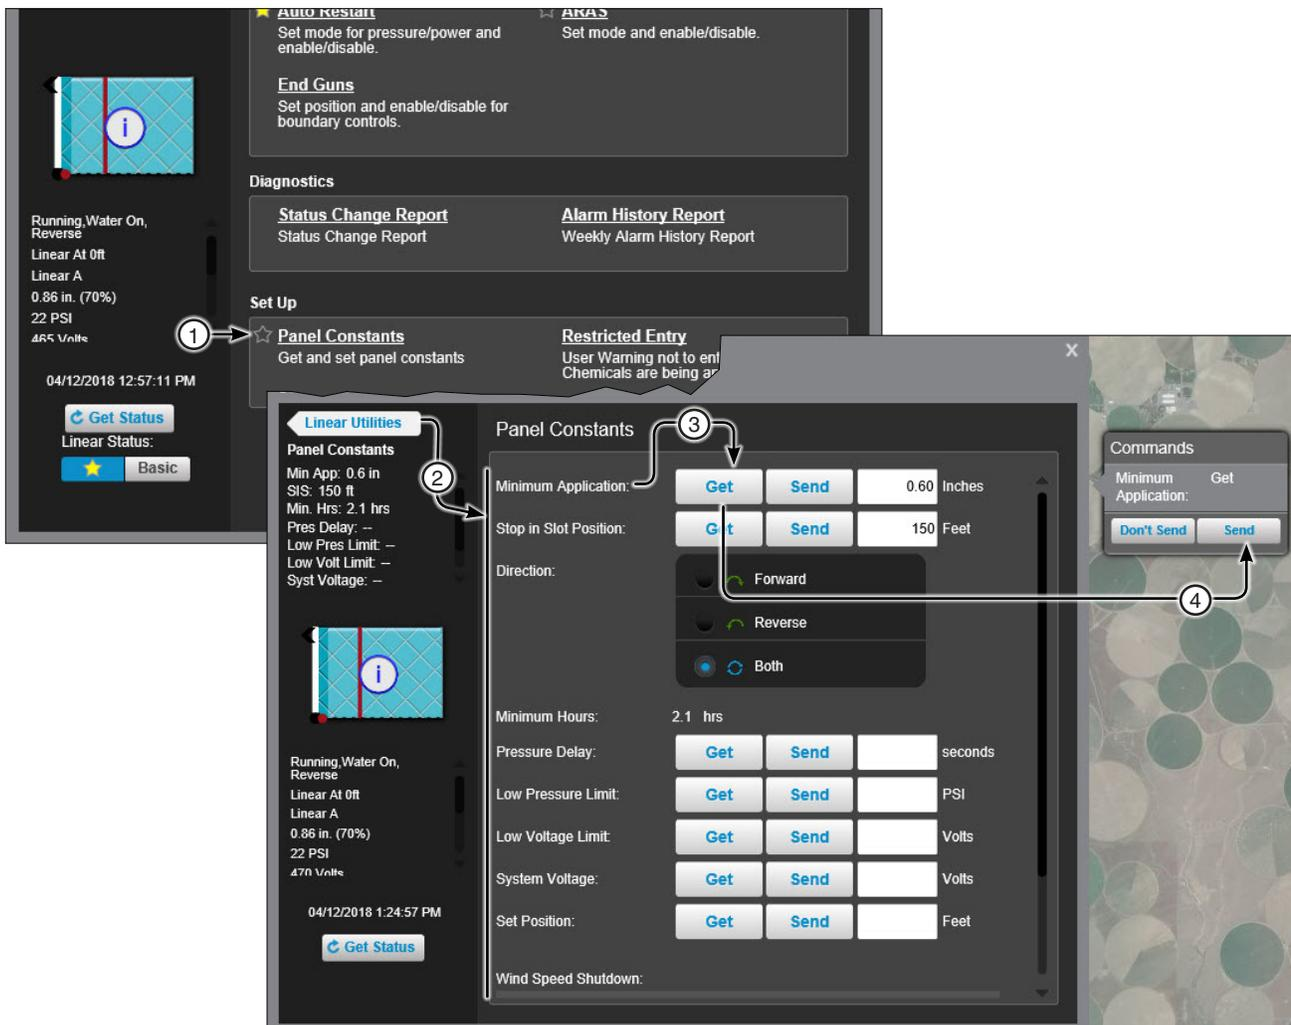

Figure 276-1 1. Panel Constants 2. Available Constants 3. Get 4. Send
Use Panel Constants to Get or Set the minimum application, stop in slot position, pressure delay, low pressure limit, low voltage limit, system voltage, set position, and wind speed shutdown control panel constants. The Minimum Hours setting at the control panel is also displayed. See Figure 276-1.
**Get Constants:** To Get constants from the control panel, refer to Figure 276-1 and do the following.